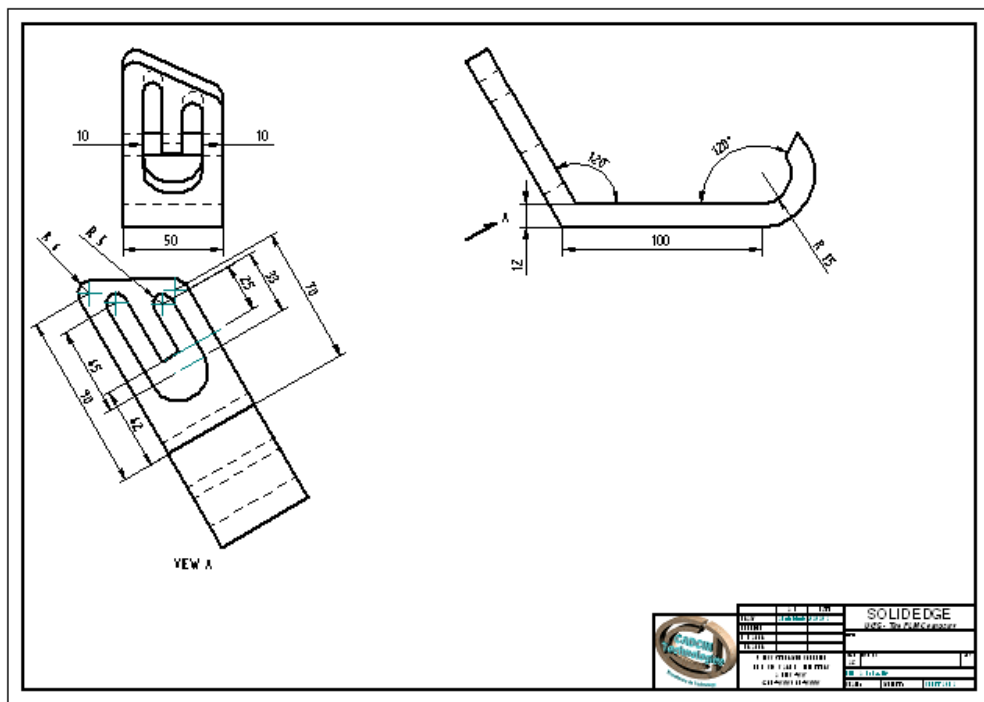

Figure 12-43 Drawing sheet after dimensioning the views
- Create the remaining dimensions that are not generated, refer to Figure 12-43.
The drawing sheet, after dimensioning the drawing views, is shown in Figure 12-43.